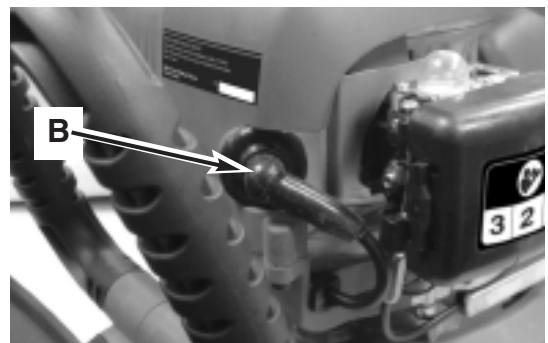

Fig. 19
1. To remove spark plug (B) (Fig. 19) for cleaning or replacement: make sure engine is off, spark plug is cool, then grasp spark plug boot firmly and remove from spark plug. Remove spark plug with correct spark plug tool. Inspect, clean or replace as needed.